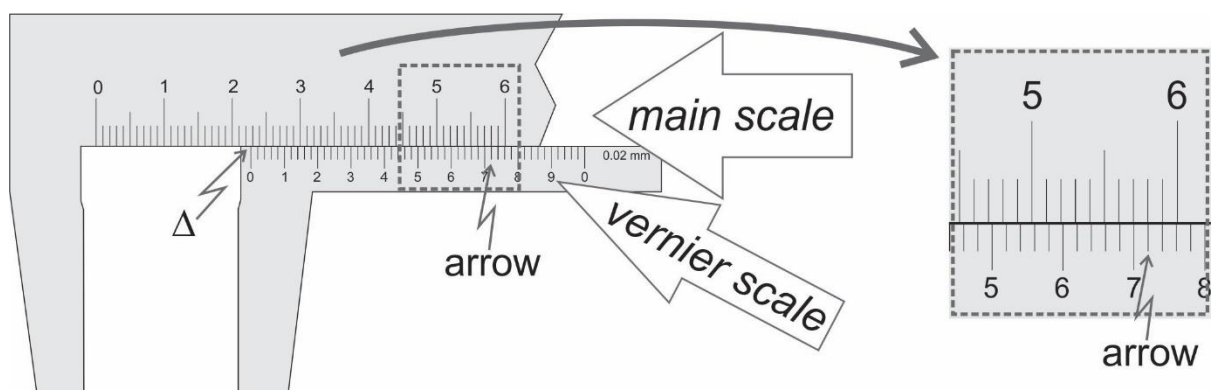

Figure 5 Reading the vernier scale of the caliper
3.4. The vernier scale enables one to accurately determine the value of, Δ , the amount by which the 0 on the vernier scale went beyond the millimeter mark on the top, main or cm scale – the Δ bit in **figure 5**. The accurate value of Δ is read off on the vernier scale and added on the reading made on the main scale. In order to determine the value of Δ we compare the position of the lines on the vernier scale to the position of the lines on the main scale - **figure 5**. Start at the left-hand end of the vernier lines and move your eye along them to the right – **figure 5**. Notice that at some point the two sets of lines come into alignment with one another - at the arrow's position. The vernier scale is read off at this alignment point, the position of the arrow. What is the vernier scale reading at this alignment point? Add this fraction of a millimeter value to your reading on the main scale - where the 0 of the vernier scale is located on the main scale - and note the final value down in your book. Note that a reading made with such a vernier caliper must always have a figure for the 1/100th of a millimeter digit! Even if the reading falls exactly on a millimeter mark, in which case you will have a 0 in the tenth and a 0 in the hundredth of a millimeter position in the reading.